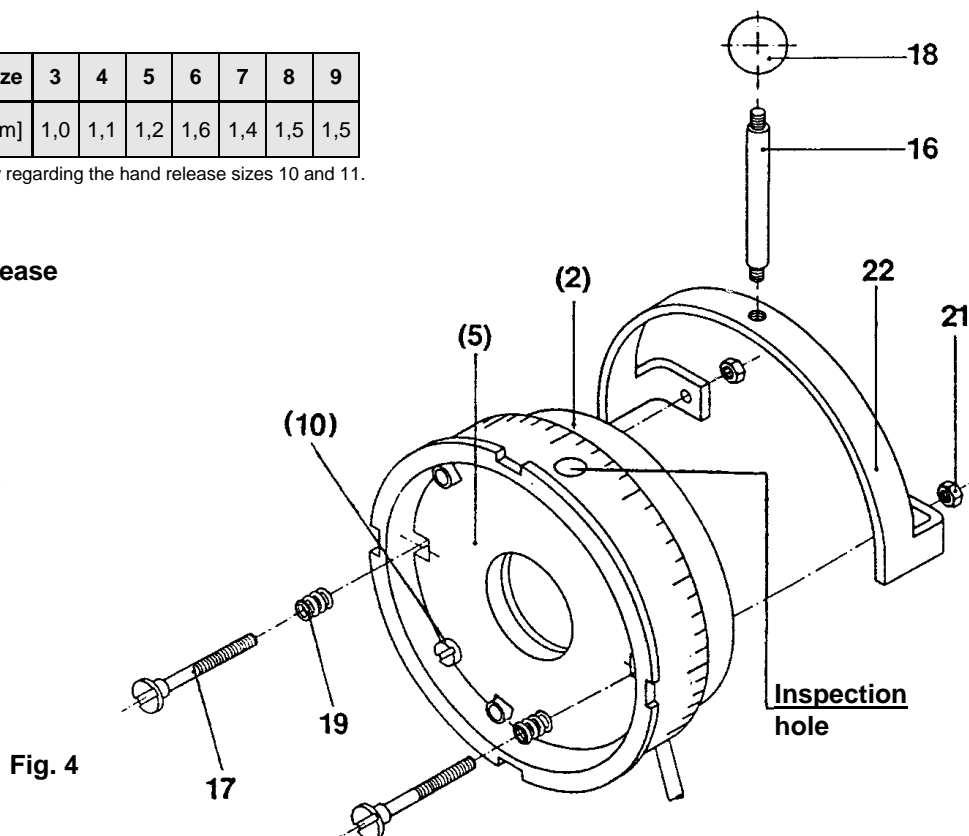

Fig. 4
The restoring bolts (17) limit the stroke of the armature disc (5) in brake direction, Figs. 4 and 5.